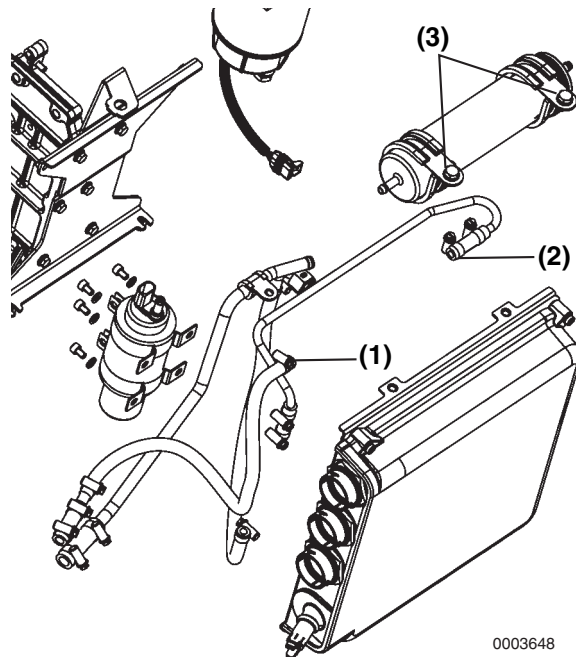

Figure 6-34
3. Loosen inlet (**Figure 6-34, (1)**) and outlet (**Figure 6-34, (2)**) hose clamps and remove hoses from filter.
4. Remove bolts (**Figure 6-34, (3)**).